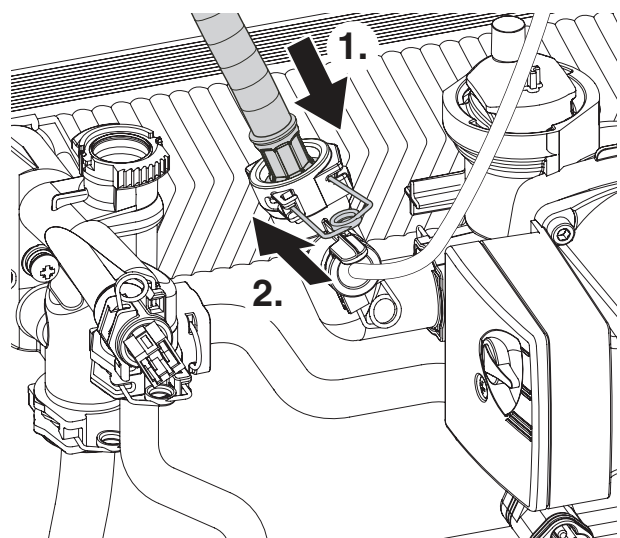

Fig. 33 Expansion vessel hose connection
1. Refer to figure 33 and insert the expansion vessel flexible pipe it to the fitting on the pump.